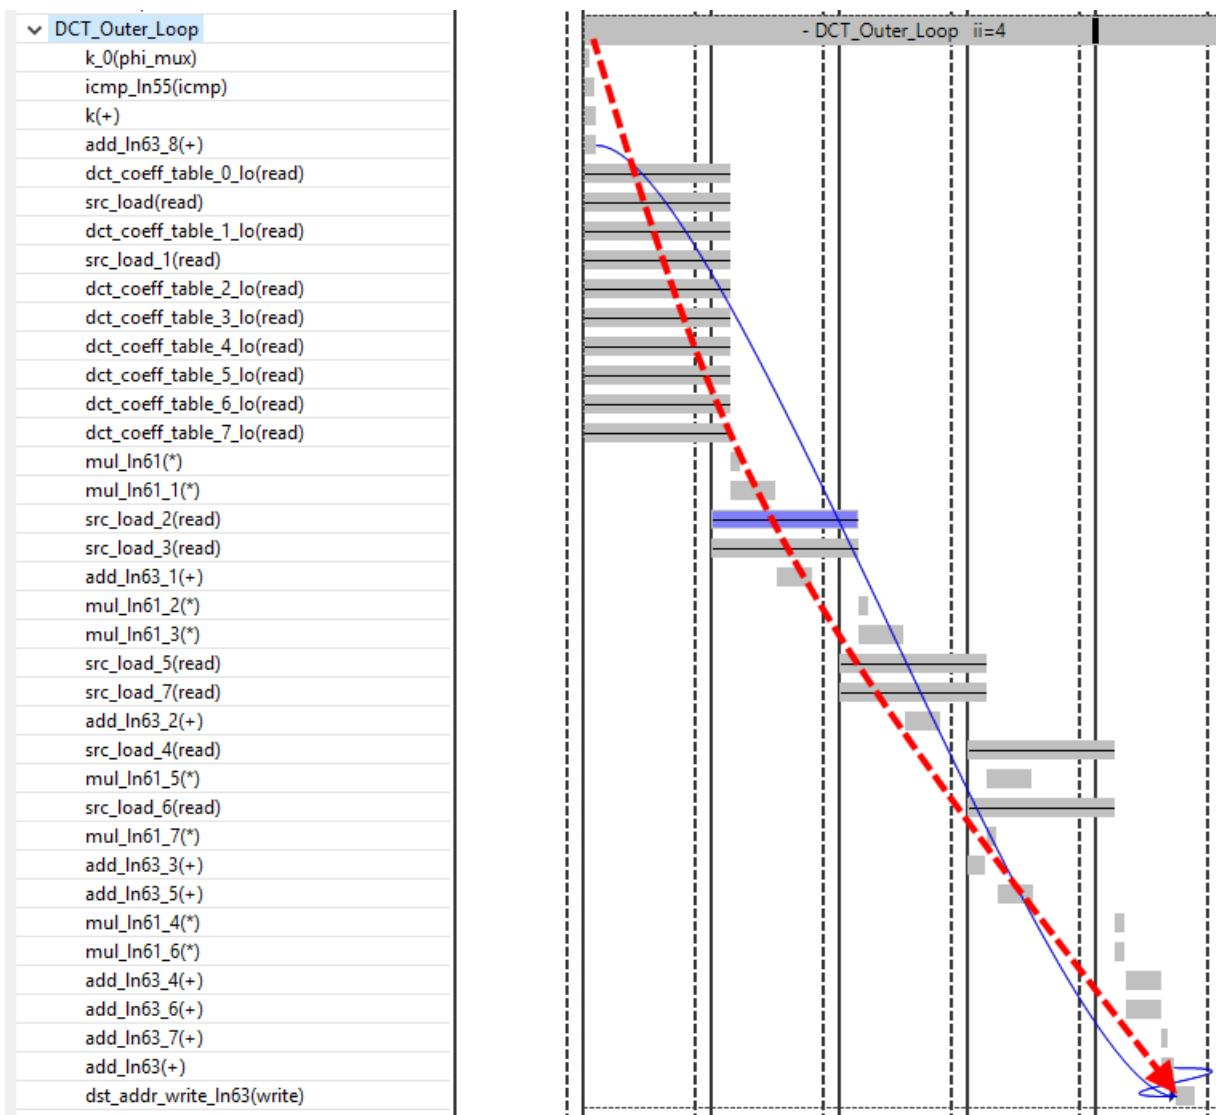

Figure 6-22: Analysis of `dct_1d RD_Loop_Row`
14. Expand the `DCT_Outer_Loop` to see the view shown in Figure 6-22.
Figure 6-22 shows a very different view from the earlier loop schedules (which had only a few cycles of latency). The schedule shows a long drift from input to output (as shown by the red arrow).
Figure 6-22 shows the analysis of `dct_1d RD_Loop_Row`.